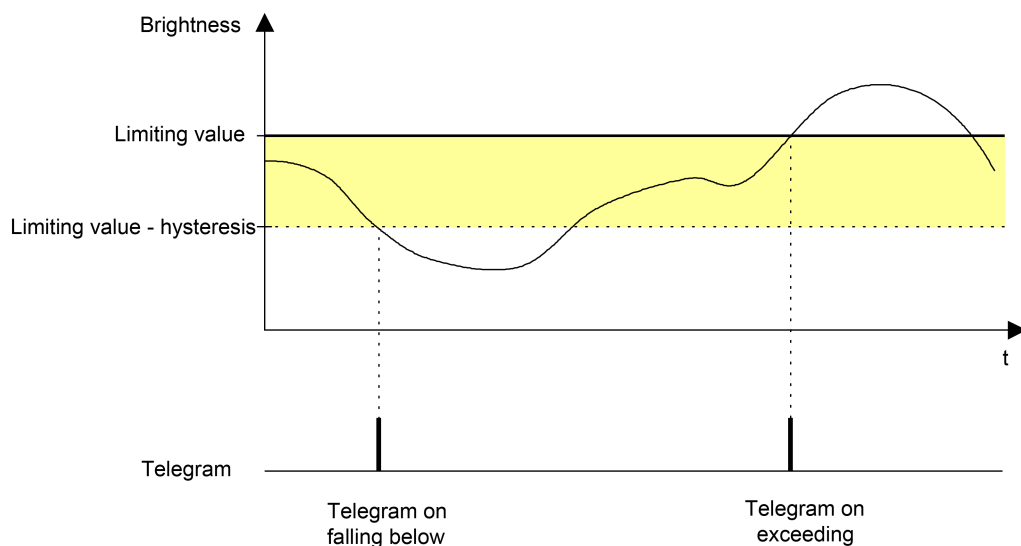

Figure 67: Example 1 of the limiting value definition
1. Brightness limiting value = Upper threshold (see figure 67)